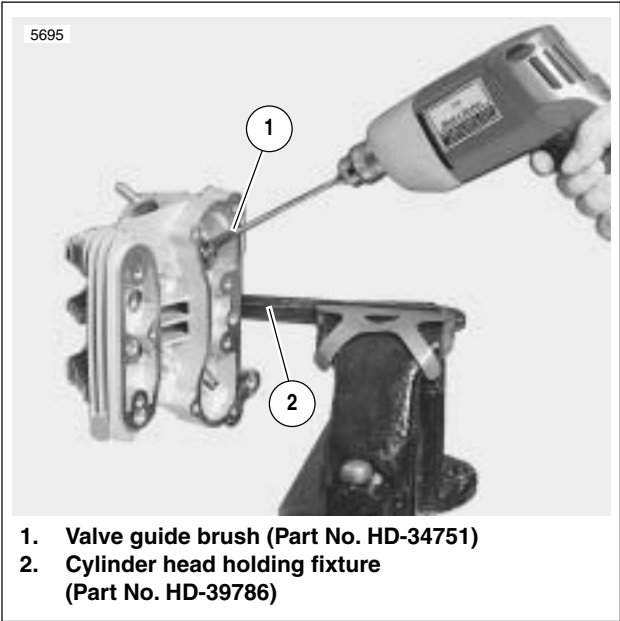

Figure 3-59. Cleaning Valve Guides
7. See Figure 3-59. Thoroughly clean valve guide bores using VALVE GUIDE BRUSH (Part No. HD-34751) and hot soapy water.